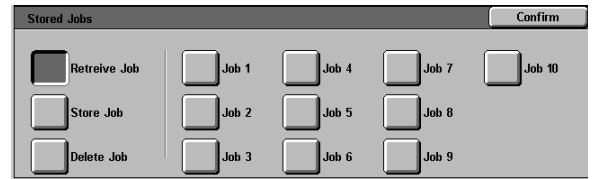

**Figure 3: Stored Job option selected**
- 2 Touch the **Stored Jobs** button on the Job Assembly tab to display the Stored Jobs screen, as illustrated in Figure 3.